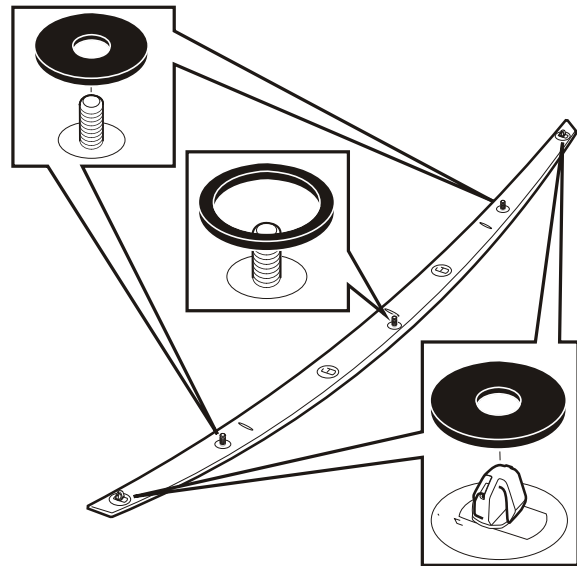

FIGURE 9
28. Apply the correct circular adhesive foam seals around the different fasteners. Refer Figure 9.